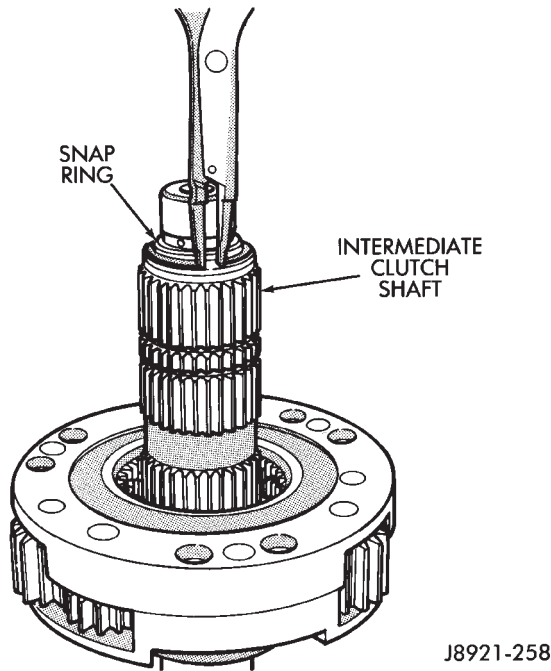

Fig. 19 Removing Intermediate Clutch Shaft Snap Ring
(31) Remove intermediate clutch shaft snap ring (Fig. 19).